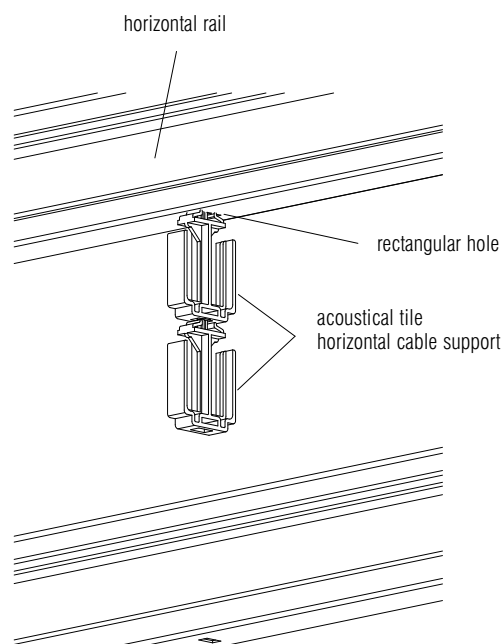

Figure 60
2. To support wires in the middle of larger panels, use an acoustic tile horizontal cable support. To install; align the rectangular projection on the top of the wire support with the rectangular hole in the horizontal. Push the wire support through the horizontal and rotate it one-quarter turn to lock it into place. If support is required for other wires, the wire supports can be ganged by using the rectangular hole in the bottom of the wire support. The method of ganging is identical to attaching to a horizontal rail. **Figure 60.**